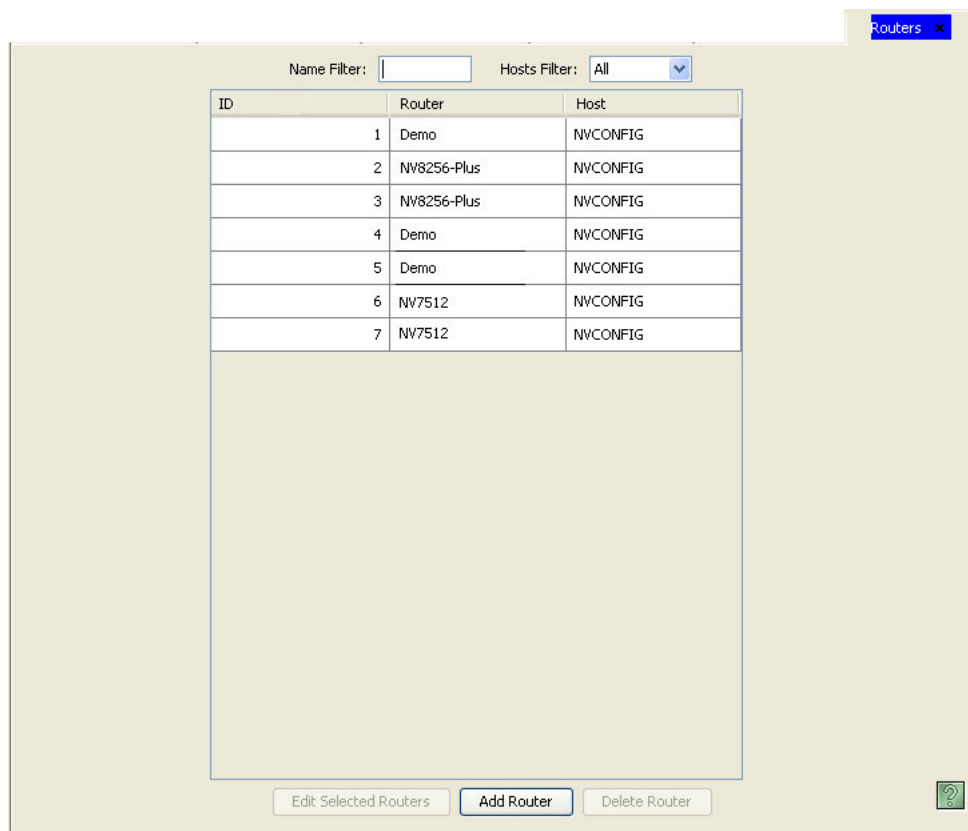

Figure 7-7. Routers Page
- 2 From the Navigation area, select the ‘Configuration’ pane and then ‘Routers’. The ‘Routers’ page displays, as shown in Figure 7-7. All routers currently defined in the system are listed.